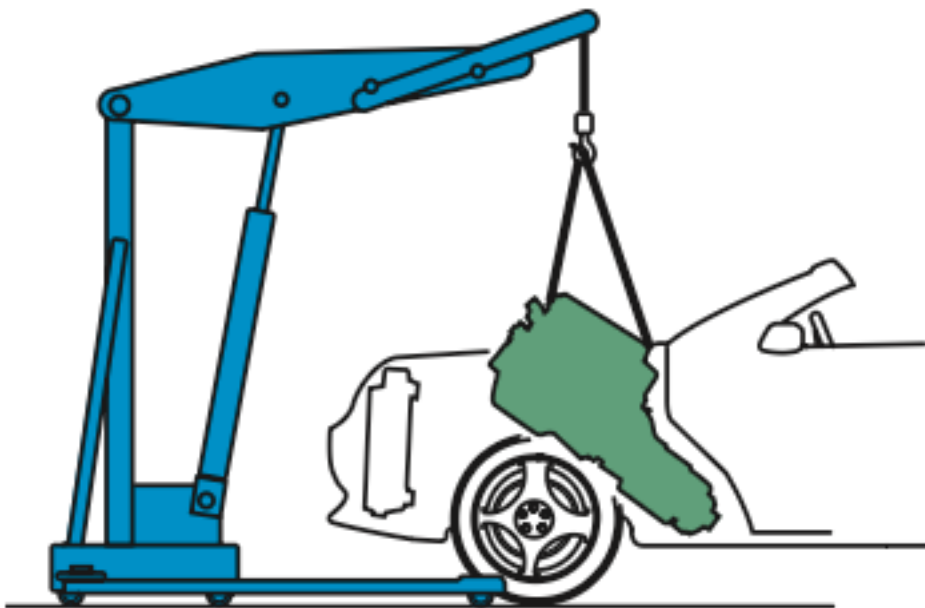

Figure 6. Removing the engine.
- The engine and transmission are hoisted free of the automobile, swung clear, and lowered on an open floor area. Fig 6.